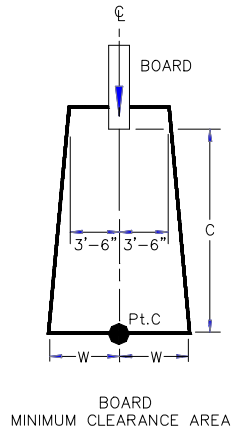

FIG. 4
- B. The minimum clearance area in front of a properly installed diving board on an inground swimming pool is a minimum distance of three feet six inches (3'-6") on either side of the board's centerline as shown in FIG. 4. Pt. C extends a minimum distance of "C" from the tip end of the board as shown in FIG. 4. The width distance "W" on either side of Pt. C is given in CHART 1 and shown in FIG. 4.